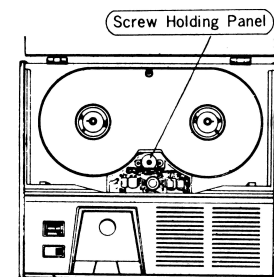

Fig. 5
4. Unscrew and remove screw holding Panel. (Fig. 5)
5. Place recorder upside-down and remove seven (7) screws holding Panel to Base.